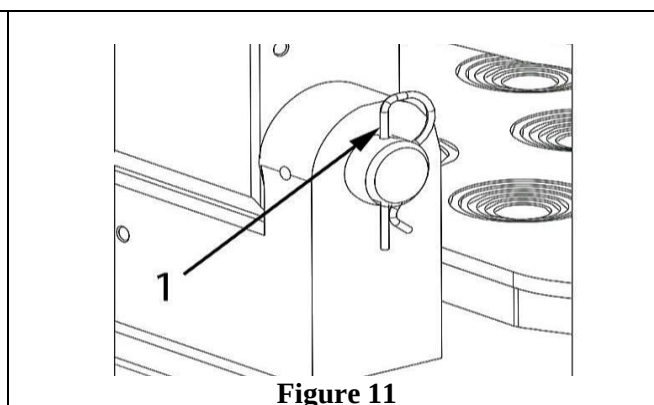

Figure 11
- 3) lift the pin stop (Figure 11, pos.1) by pulling it up;